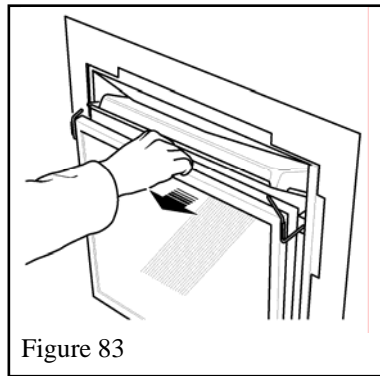

Figure 83
4. Pull the top of the window forward and release to check that the window opens slightly and returns in the event of a delayed ignition explosion. See figure 83.